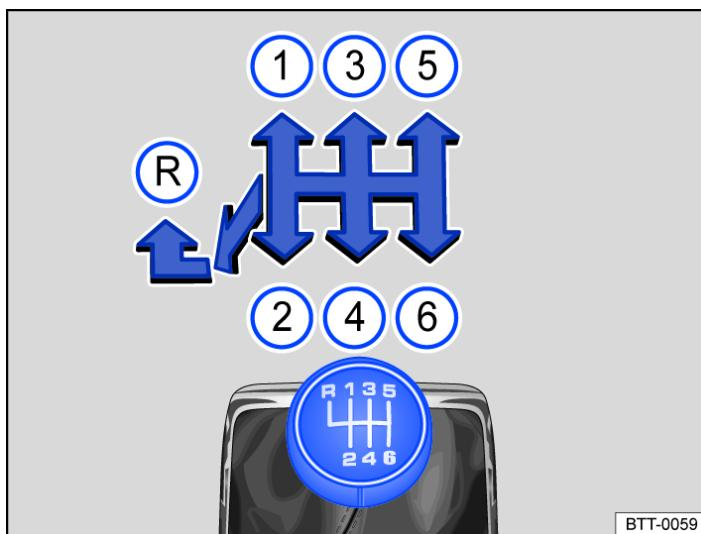

Fig. 1 Gear shift pattern of a 6-speed manual gearbox.
- Push the gear lever fully to the left and then forwards into the reverse gear position → Fig. 1 .